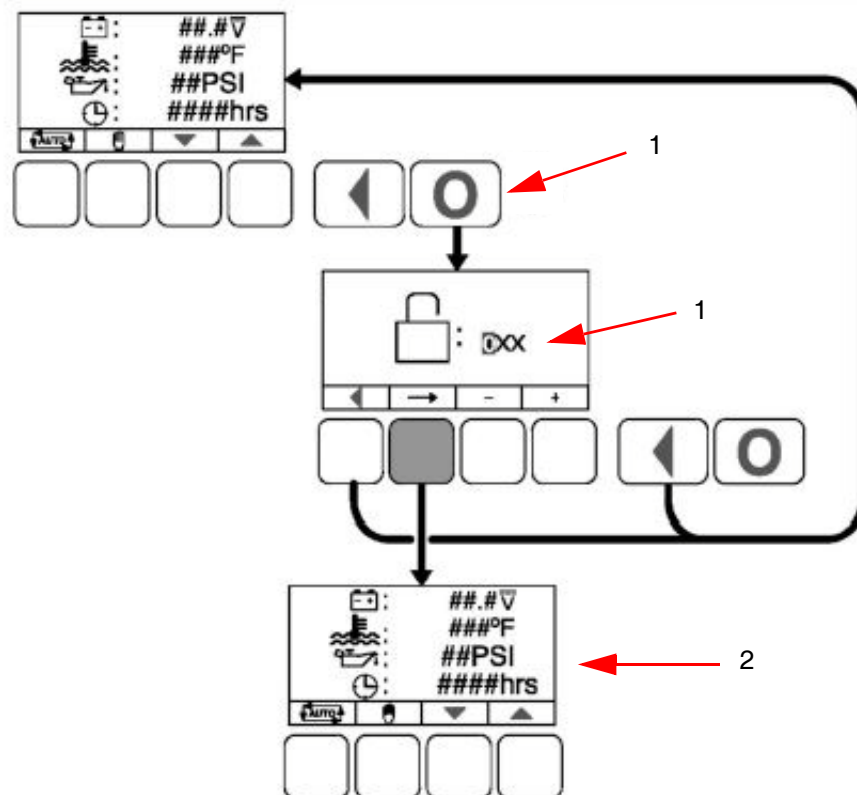

Figure 4-6 Off mode
1. As shown in Figure 4-6, press the **Off Mode Button** (the “O”) on the remote operator panel. The GenSet will complete its normal shutdown sequence incorporating a cool down run. An “ECM data save” message will appear on the display. After the ECM data is saved, the remote operator panel will stay awake for five minutes. The fuel pump will run while the panel is awake and will shut down 30 seconds after the panel goes to sleep.
NOTE: *If the Mode Change Access Code is enabled (shown in Figure 4-6), a prompt for the **Mode Change Access Code** will be displayed and the operator will have to enter the **Mode Change Access Code**. See the *PC1302 Owner Manual* (900-0661).*
2. As shown in Figure 4-6, the basic screen will re-appear, and the GenSet will stop immediately.